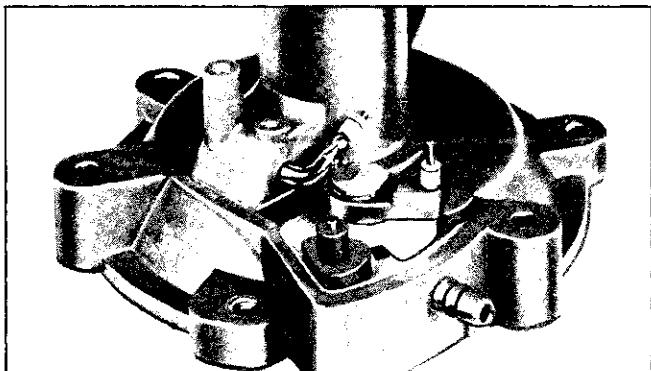

Fig. 4-18 Removal of Distributor Valve
1. Remove screw, washer, distributor arm assembly, washer and distributor valve bushing (Fig. 4-18).